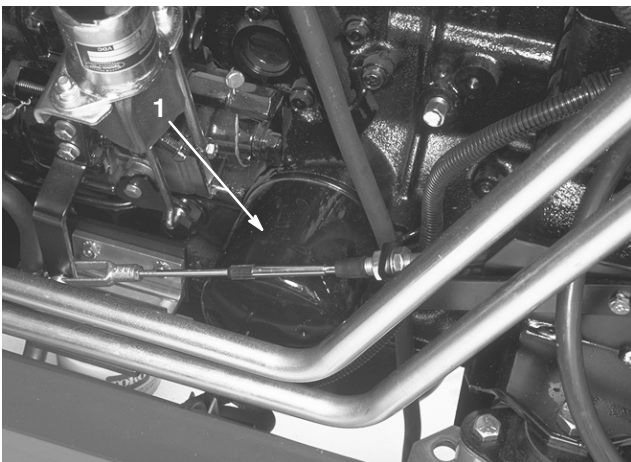

Figure 41
3. Remove drain plug and allow oil to drain into pan. Remove and replace oil filter (Fig. 41); refer to parts catalog for replacement number. Apply a coating of oil to the filter O-ring and tighten filter by hand.